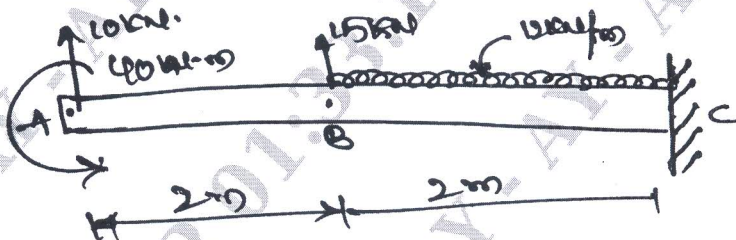

Fig.Q.8(b)
b. A cantilever is subjected to forces as shown in Fig.Q.8(b). Determine: i) Deflection and slope at point 'B' ii) Deflection and slope at a point which is at a distance of 3m from the free end.